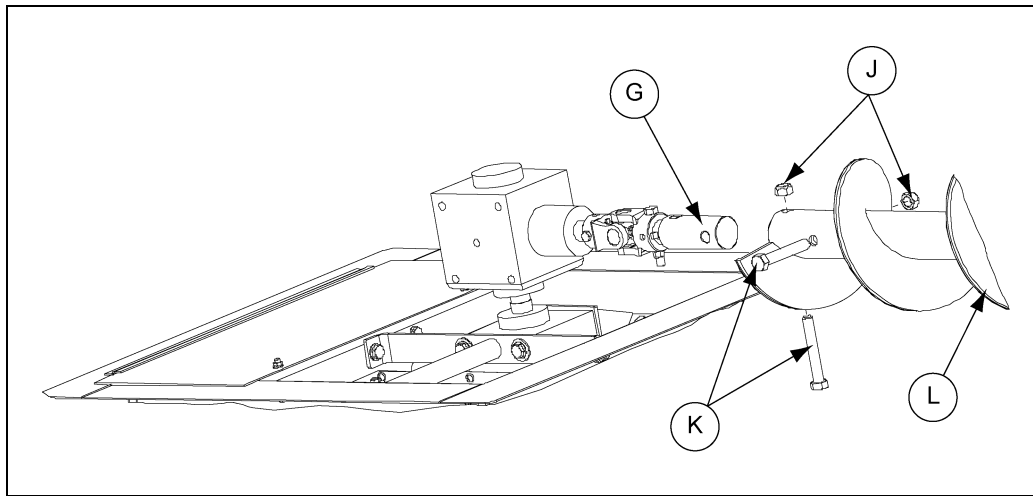

Figure 4AH
- Fasten the first section of sweep flight to the U-joint flight shaft (G) with two (2) 5/8" x 4" grade 8 bolts (K) and stover nuts (J). Make sure that the dura-edge side of the sweep flight (L) faces the center of the bin. (See Figure 4AH.)